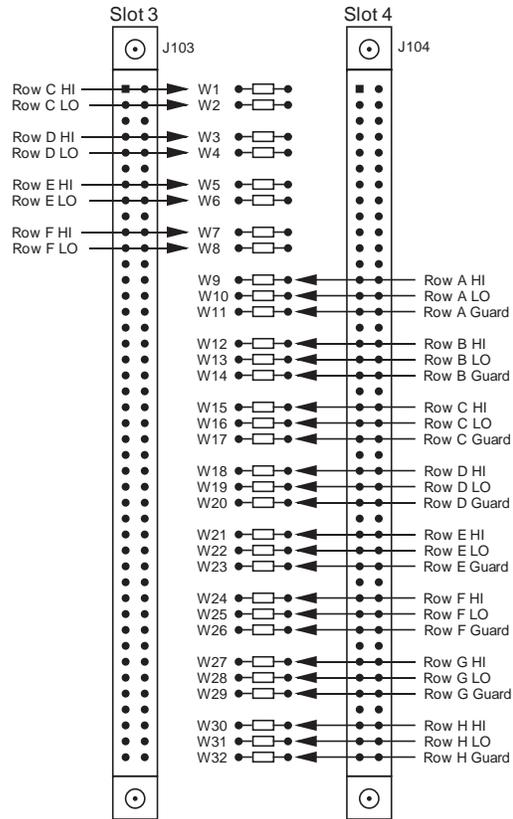

Figure 7-7
4. The backplane jumpers are called out in Figure 7-7. Remove them by snipping with diagonal cutters.